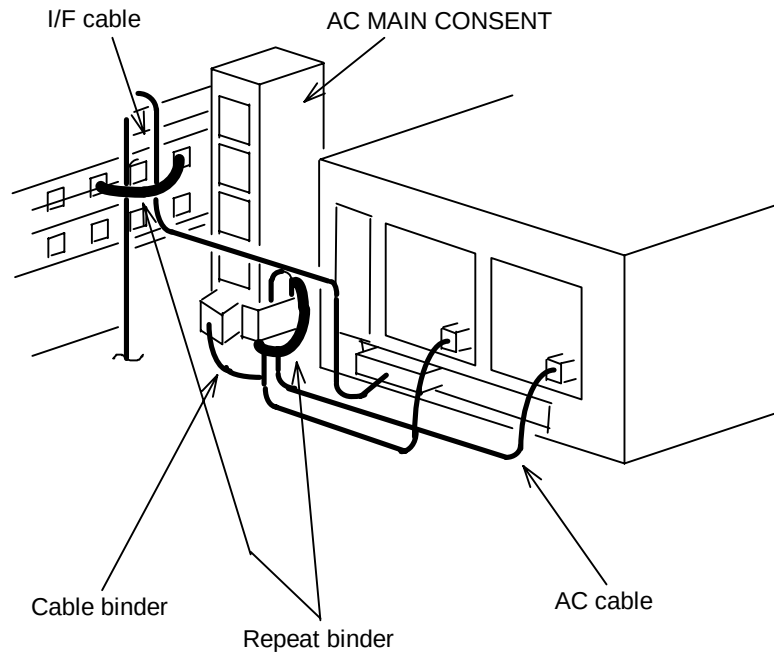

Figure 1.4.8 Cable routing
1.4.8 Cable routing (See Figure 1.4.8.)